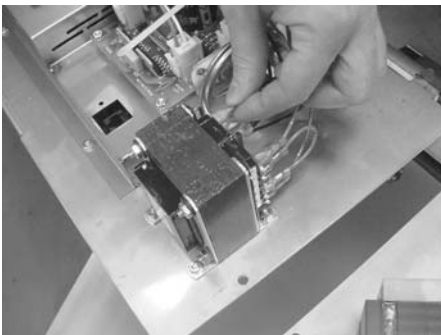

Figure 2-75
3. Label and remove wires from transformer. Figure 2-75.